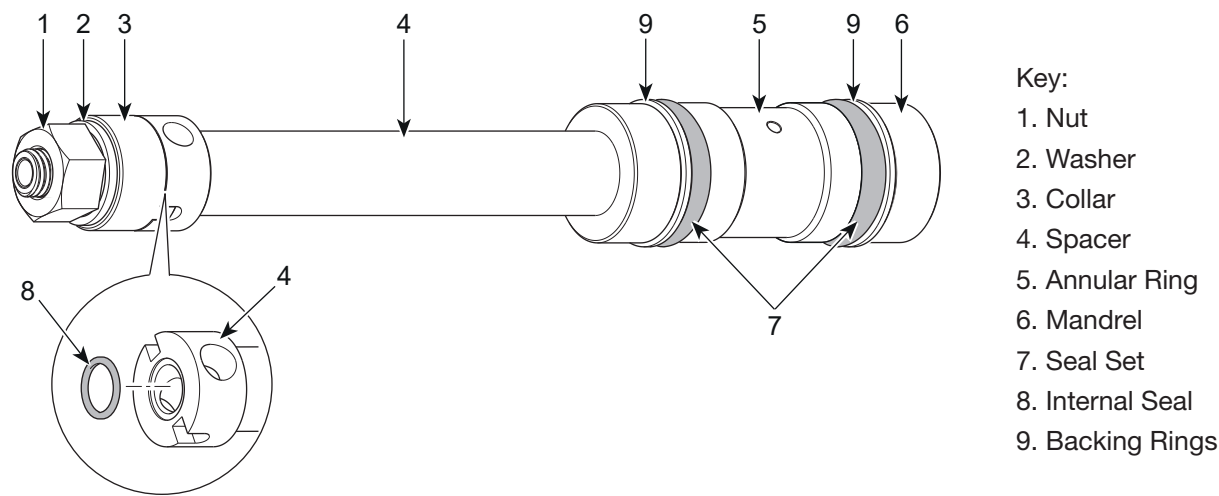

Figure 1: Single Bolt Component Overview (Patent pending)
1. Install correctly chosen seals and seal backing rings (if required) as per figures 1 and 2.